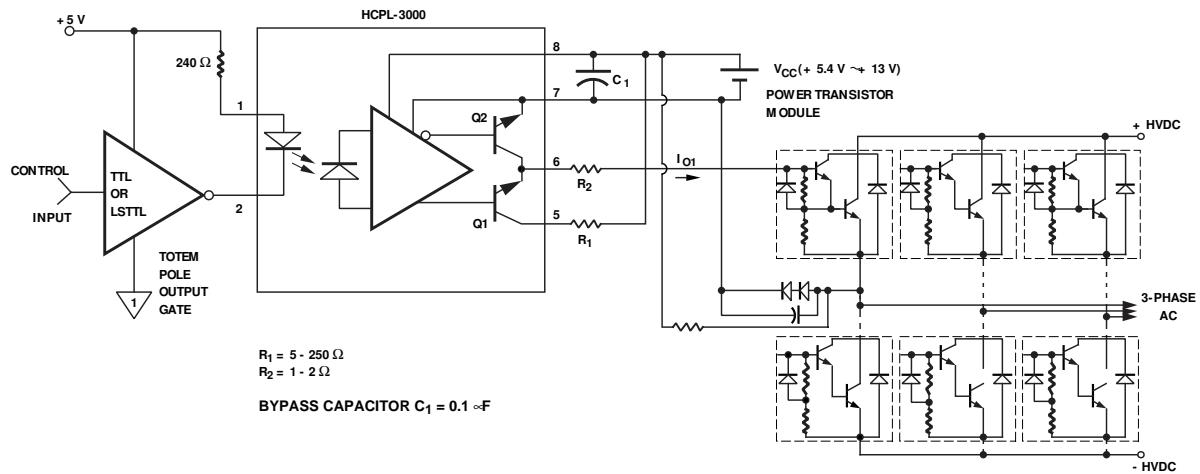

Figure 1. Recommended output transistor protection and typical application circuit.
ALSO, CURRENT LIMITING RESISTORS ARE RECOMMENDED (SEE FIGURE 1, NOTE 2, AND NOTE 7).
large amounts of current. Figure 1 describes a recommended circuit design showing current limiting resistors R₁ and R₂ which are necessary in order to
- R_1 sets the base current (I_{O1} in Figure 1) supplied to the power bipolar device. R_2 limits the peak current seen by Q2 when the device is turning off. For more applications and circuit design information see Application Note "Power Transistor Gate/Base Drive Optocouplers."